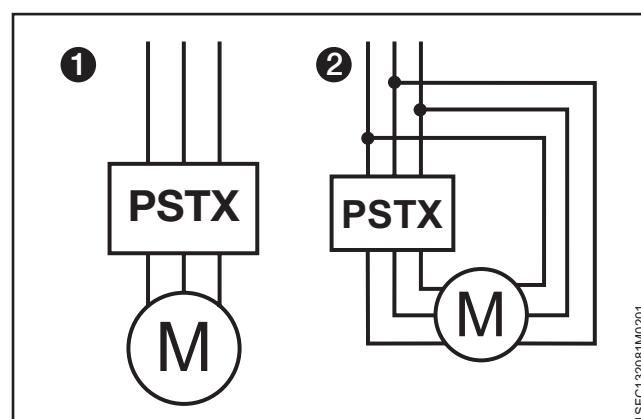
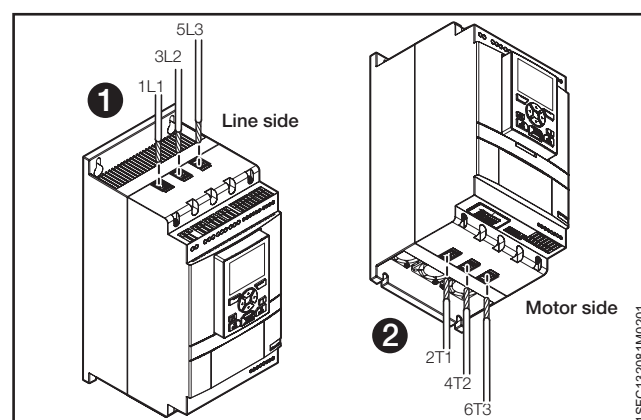
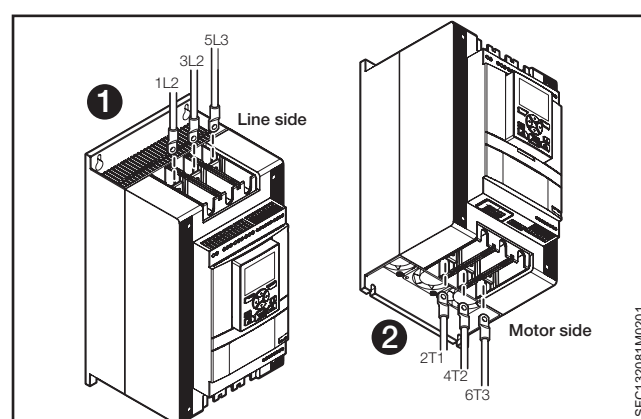

Figure 5.1
Figure 5.2
Figure 5.3
Softstarters PSTX30...PSTX1250 can be connected In Line, see **1 Figure 5.1**, and Inside Delta, see **2 Figure 5.1**. Use wire connection for PSTX30...105 see **Figure 5.2** Terminal connection for PSTX142...1250 see **Figure 5.3**.
- Connect the line side to terminals 1L1, 3L2, 5L3, see **1** in **Figure 5.2** and **Figure 5.3**.
- Connect the motor to terminals 2T1, 4T2, 6T3 on the motor side, see **2** in **Figure 5.2** and **Figure 5.3**.